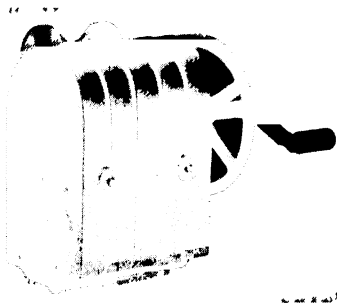

FIG. 1-34. Telephone magneto alternating-current generator. (Courtesy Kellogg Switchboard and Supply Co.)
**Single-phase Generator.** Such a generator as has just been described is shown in Fig. 1-34. This generator has only two slip rings which connect to a simple circuit of two wires. A generator with only two slip